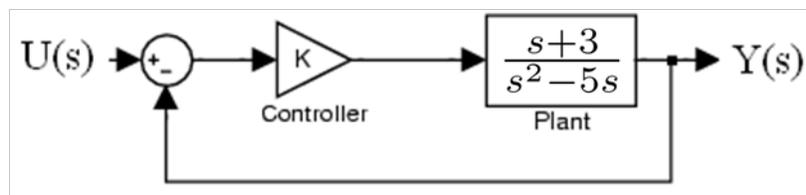

Figure 1: Simple proportional control system
Consider the system shown in Figure 1 below.
- Suppose you use proportional feedback control as shown in Figure 1. Explain *why* the scheme above is called proportional feedback. Explain *how* this scheme can be used to stabilize the system (show the *how* part mathematically).
- a. **TASK 1:** Construct the simple feedback system shown in Figure 1 in Simulink. For the following tasks, plot the step input and the response of the system on the same graph: